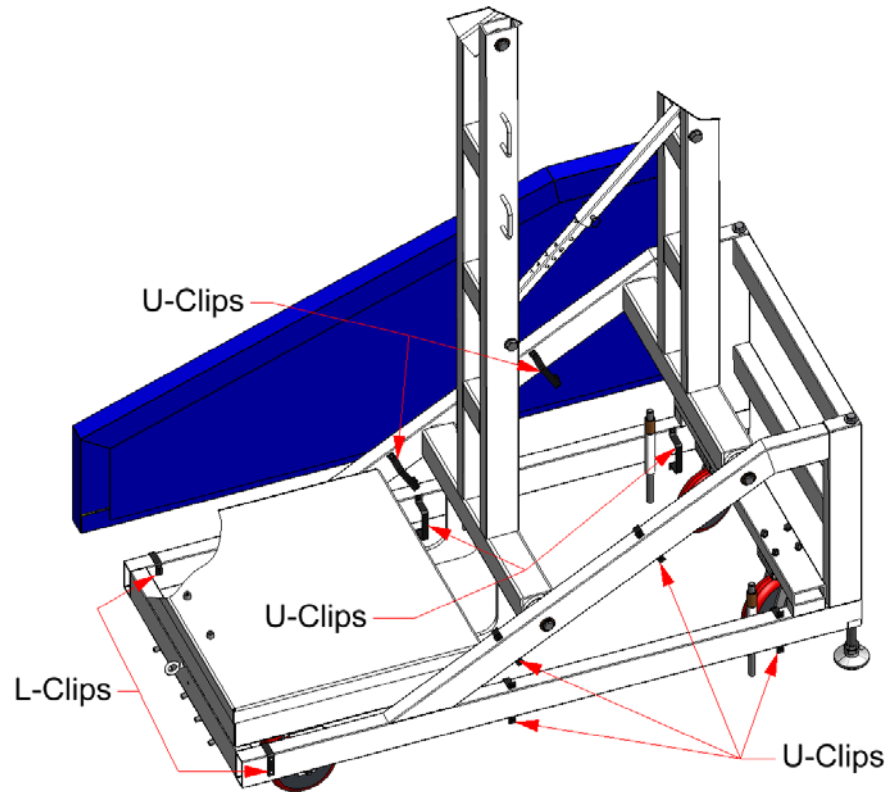

Figure 9-11: Install side pads to frame using U- and L-Clips
- d. Fasten the side pads to the base frame using two U-Clips along the side horizontal 2x4, two U-Clips along the diagonal 2x4, and one L-Clip at the rear of the side horizontal 2x4 (Figure 9-11).